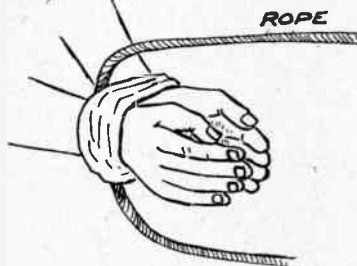

Fig. 4—The loop of the trick
The trick is shown by Fig. 4. Under the laid-over cloth the middle of the cord is worked down through the handkerchief (which can always be loosened a shade by a steady pressure of the wrists) to the palms as (B). Once made, the loop can be pulled to quite a big size and passed over one of your hands on the outside as (C). A quick jerk how and you are disengaged from the cord, having performed the apparently impossible.